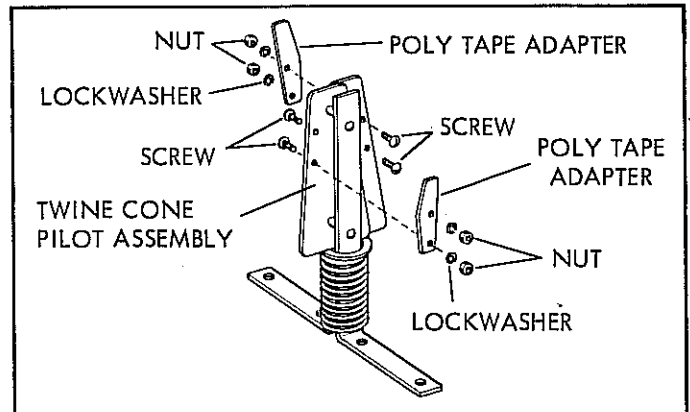

Figure 9. Poly Tape Adapters Installation
1. Position one poly tape adapter (figure 9) on either side of twine cone pilot assembly and secure with the two screws, lockwashers, and nuts supplied.